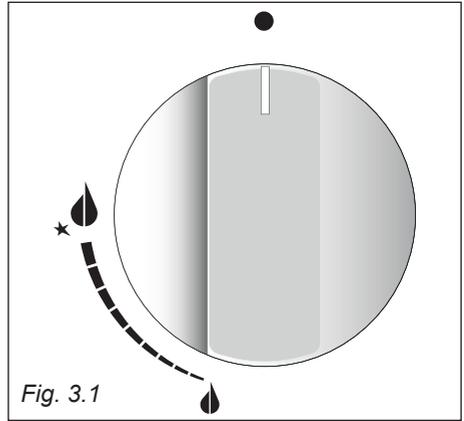
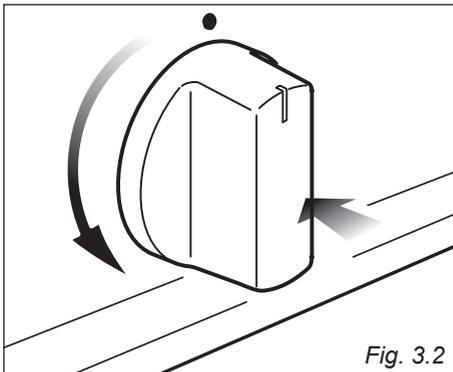

Fig. 3.1
Fig. 3.2
Gas flow to the burners is adjusted by turning the knobs (illustrated in figs. 3.1) which control the safety valves.
1. Press in the corresponding knob and turn counter-clockwise (fig. 3.2) to the full flame position marked by the  symbol (fig. 3.1); hold the knob in until the flame has been lit.